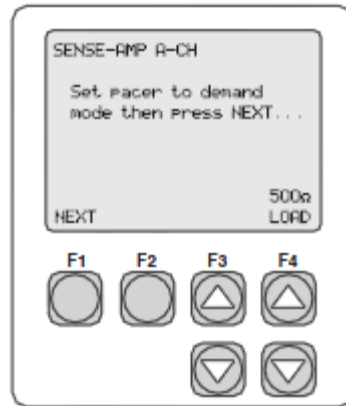

Figure 6
- Depress “F1” (NEXT) to accept a 500 Ohm load. Figure 6